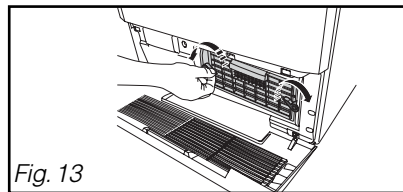

Fig. 13
- Release the condenser (Fig.13).